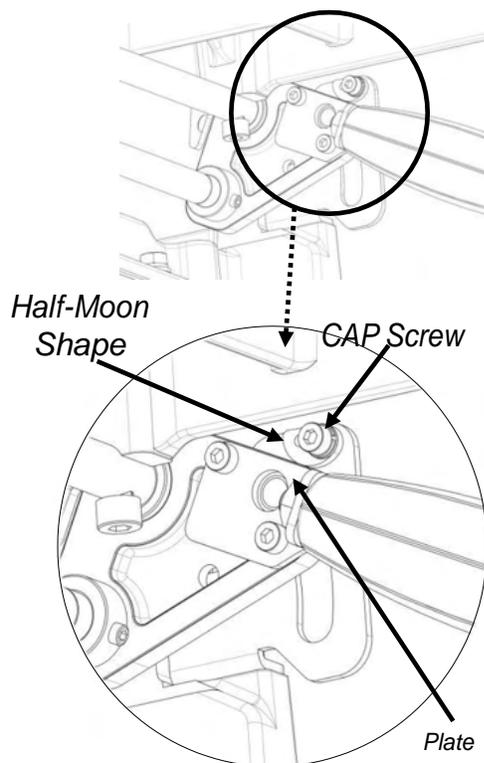

FIG. 4: Back View of Outfeed Table Adjustment
STEP 4: Loosen cap screw on the back of the outfeed table adjustment lever as shown in **FIG. 4**. Lower the outfeed table to adjust the straight-edge level with the top dead center of the knife inserts as in **FIG. 2**.